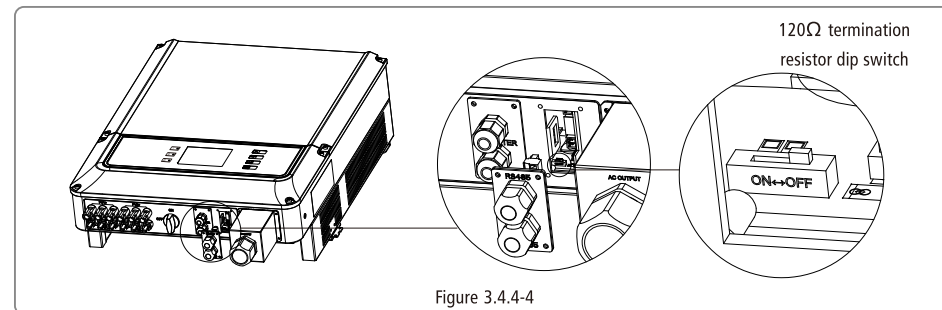

Figure 3.4.4-4
- For single inverter communication, put on the dip switch near the terminal. (The default is OFF). Then shielding layer of communication cable is single point grounding, illustrated as Figure 3.4.4-5.
- For the end inverter in daisy chain, put on the dip switch near the terminal. (The default is OFF). Then shielding layer of communication cable is single point grounding, illustrated as Figure 3.4.4-5.
- (4) RS485 communication connection method